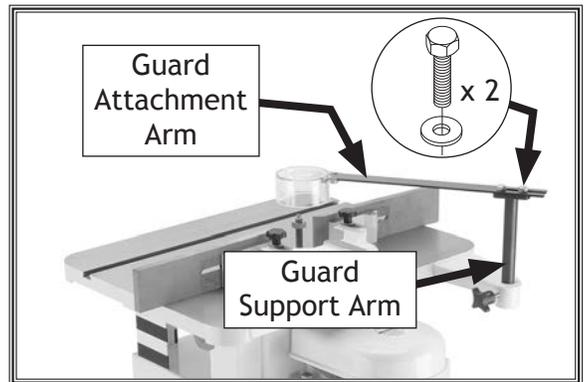

Figure 11. Guard attachment bar and support arm installed.
- Connect guard attachment bar to guard support arm with (2) M8-1.25 x 12 hex bolts and 8mm flat washers (see **Figure 11**).